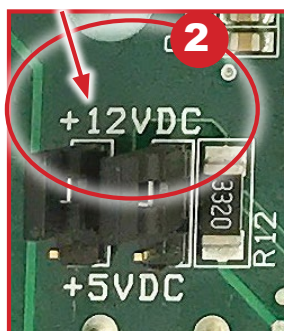

FIGURE 2- KEYPAD
3. There are two jumper pins (figure 2), move to +5VDC, covering the bottom pins,